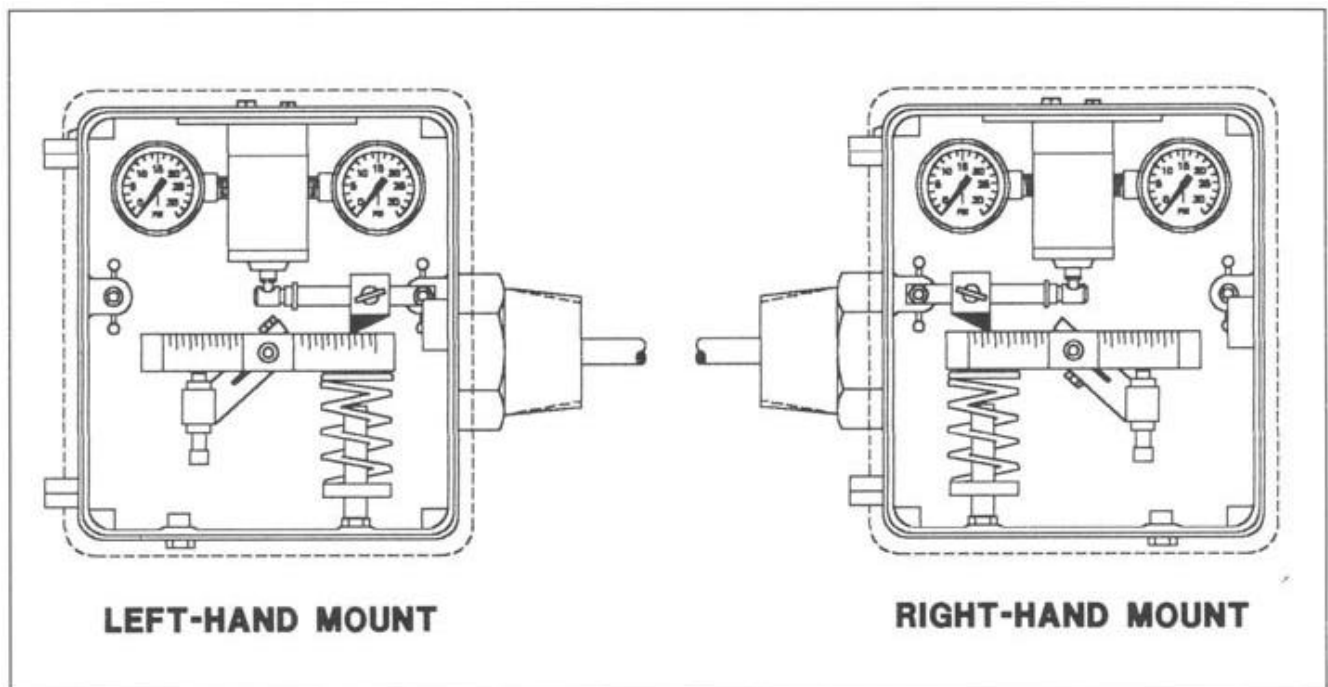

Figure 6. Controller Mounting
7. Determine mounting orientation (See Figure 6).